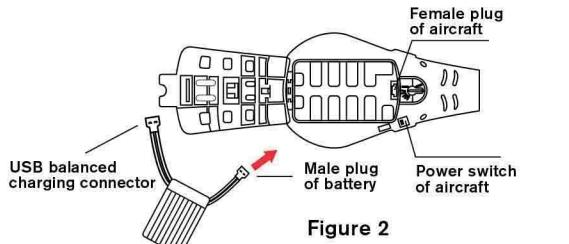

Figure 2
- Insert the battery plug to the slot in correct direction (As Figure 2 Shown), put the battery into the battery bin at the same time and close the battery bin gate at last.